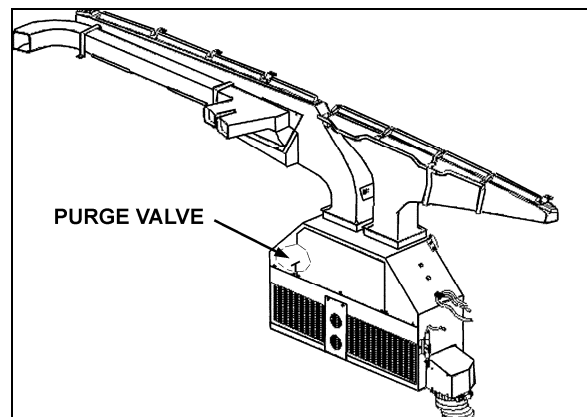

FIGURE 49: DRIVER'S HVAC/DEFROST UNIT
4. From inside of vehicle, remove the two finishing panels in front of unit. Remove the three screws fixing the unit front panel. Open the manual vent located inside the driver's HVAC unit, on the driver's side (Figure 49) to ensure an efficient draining.
Whenever the heating system has been drained and refilled, or the system has run low on coolant and coolant has been added, it is necessary to bleed air from heating system. Locate the manual vent illustrated in Figure 49, and open momentarily until no air escapes from the line.